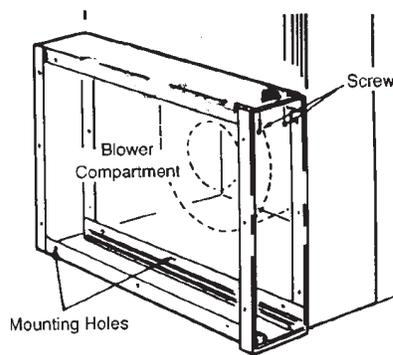

Figure 4
6. Mounting holes are provided for simple connection to duct work. The .140" holes are sized for #8 sheet metal screws, or 1/8" rivets. If the adjoining duct work is flanged, install the screws so that the screw heads are inside the cabinet. This will prevent damage to the filter cartridge during removal and installation (Figure 4).